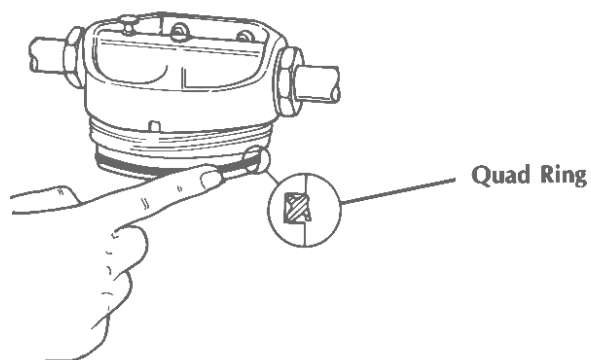

Figure 4
5. Check quad ring to make sure it is lightly lubricated and not twisted or nicked. Replace if necessary. (Figure 4)